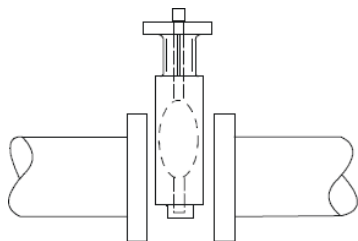

Figure 1 Flange and disc position
1. Align the piping and spread the flanges apart enough to allow the valve body to be located between the flanges without actually contacting the flange surfaces (see Figure 1)